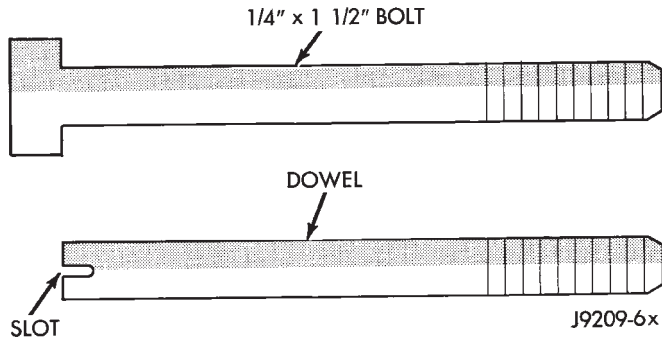

Fig. 49 Fabrication of Alignment Dowels
(1) Clean the block and pan gasket surfaces.
(2) Fabricate 4 alignment dowels from 1 1/2 x 1/4 inch bolts. Cut the head off the bolts and cut a slot into the top of the dowel. This will allow easier installation and removal with a screwdriver (Fig. 49).